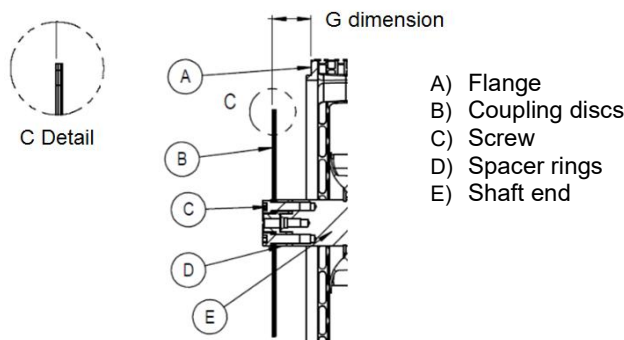

Figure 4.13 - Procedure for changing the G dimension
If it is necessary to change the "G" dimension, the position of the coupling discs (E) must be changed. To do this, simply remove or add the spacer rings (I), as indicated in Figure 4.13.